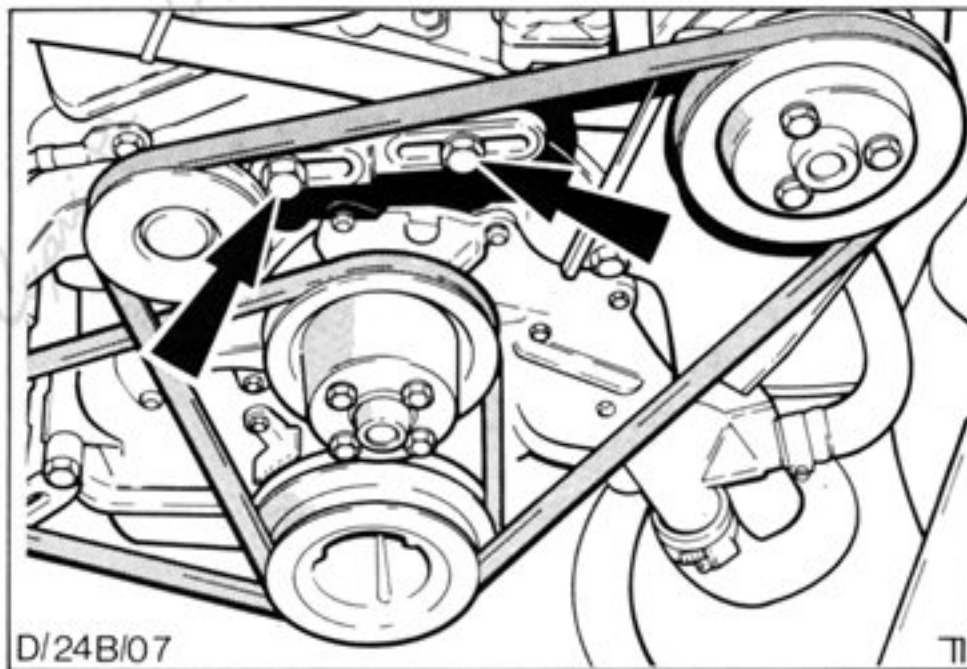

Fig.9. Power steering belt tensioner securing bolts.
2. Remove power steering drive belt by loosening belt tensioner two securing bolts, Fig.9.